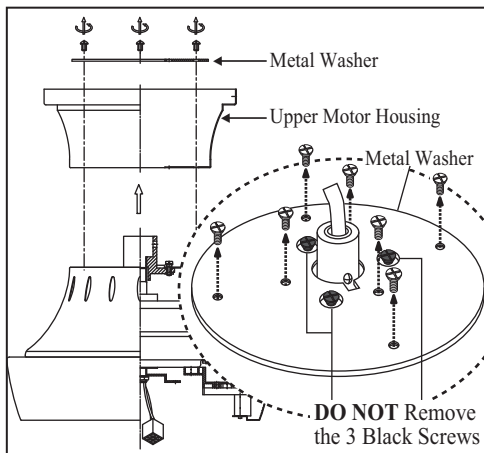

Figure 8
1. Remove the metal washer from the fan motor by removing the 4 outer and 3 inner CHROME screws from the metal washer. For your safety, please don't remove black screws on top motor housing. (Figure 8)